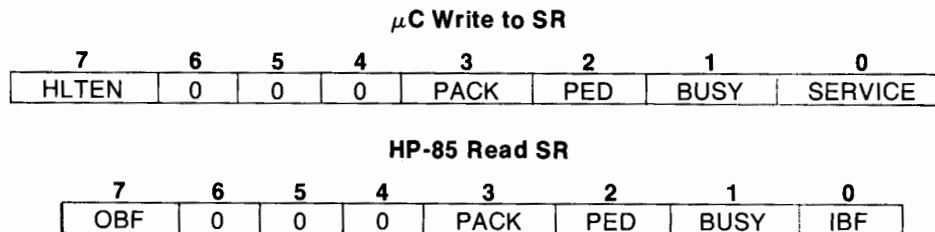

Figure 3-3. SR Bit Assignments
Two other registers within the Translator are used when the HP-85 receives data from the μC . These registers are the input buffer register (IB) used to handle the data and the status register (SR) which contains status bits to implement communication protocol. The IB is write-only by the μC and read-only by the HP-85. Except for bit 0 and bit 7, the SR is also write-only by the μC and read-only by HP-85. Different status bits are read for bits 0 and 7 by the HP-85 than those written as bits 0 and 7 by the μC . This is illustrated in Figure 3-3.